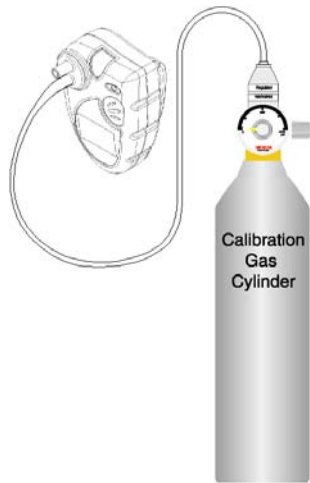

Figure 3.5: Bump-test/span calibration set-up for the Toxi3Ltd.
4. Apply the calibration gas as shown below in figure 3.5.
2. Apply calibration gas as shown above in figure 3.5. Once calibration gas is detected, the readout will change to show the gas reading. Note that the negated horn symbol is shown to indicate that the alarms are not operating because the instrument is in calibration mode.
- Apply "Zero Air" calibration gas to the instrument as shown above in figure 3.5 for at least 15 seconds or until the readings fully stabilize.